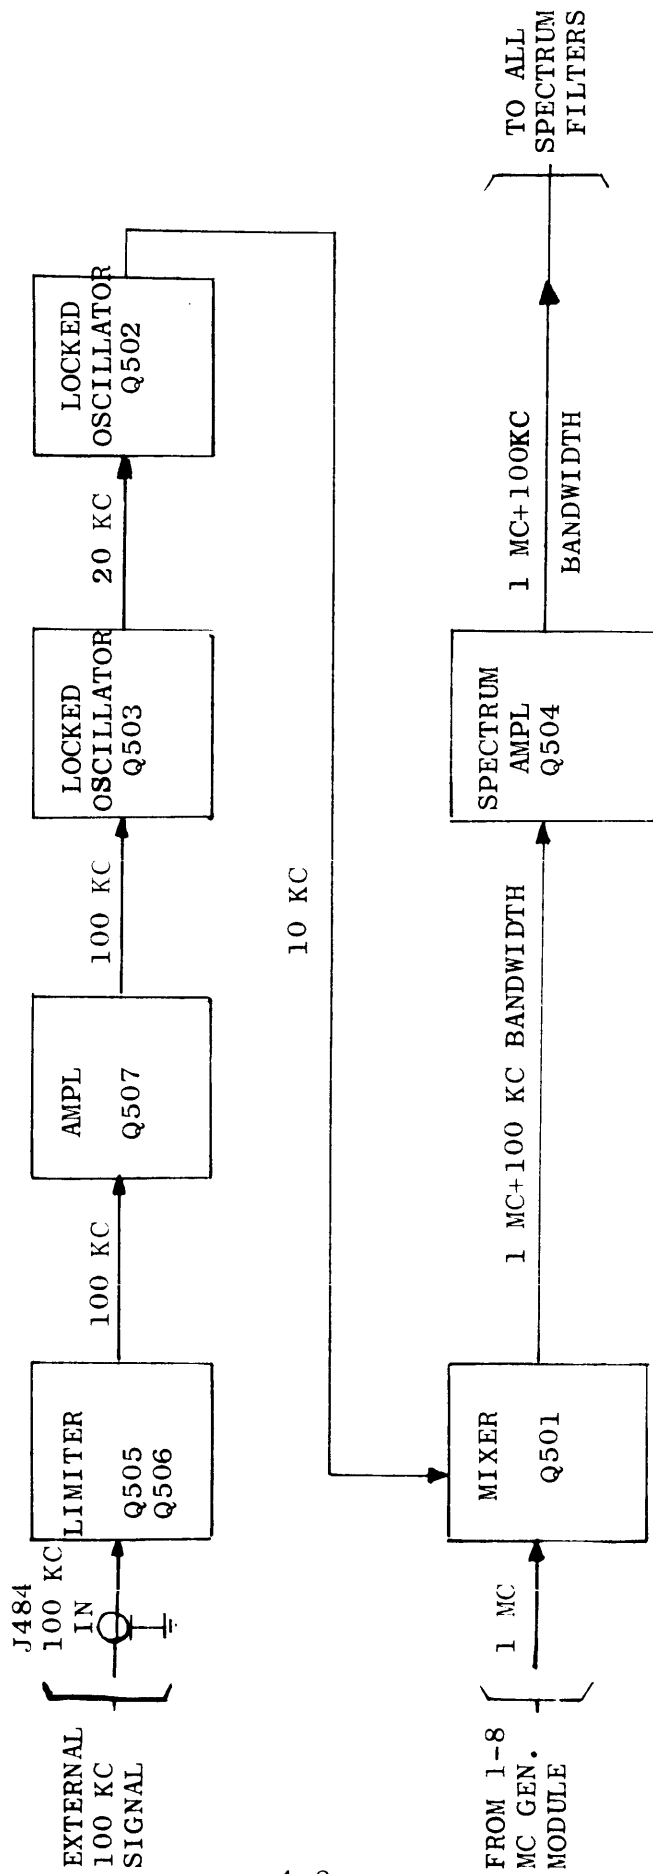

Figure 4-3. Spectrum Generator Module, Functional Block Diagram
b. SPECTRUM GENERATOR MODULE. - Refer to figure 4-3.